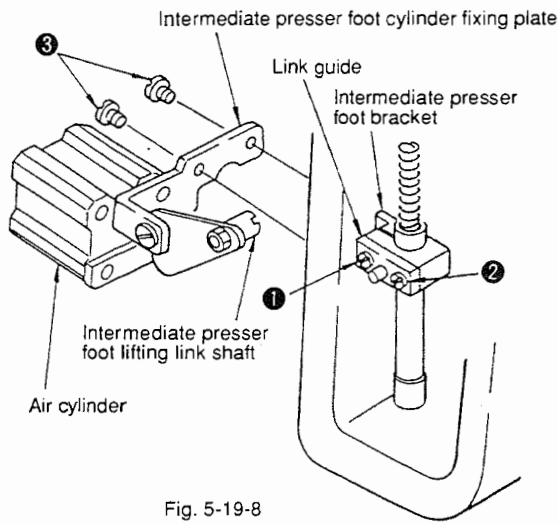
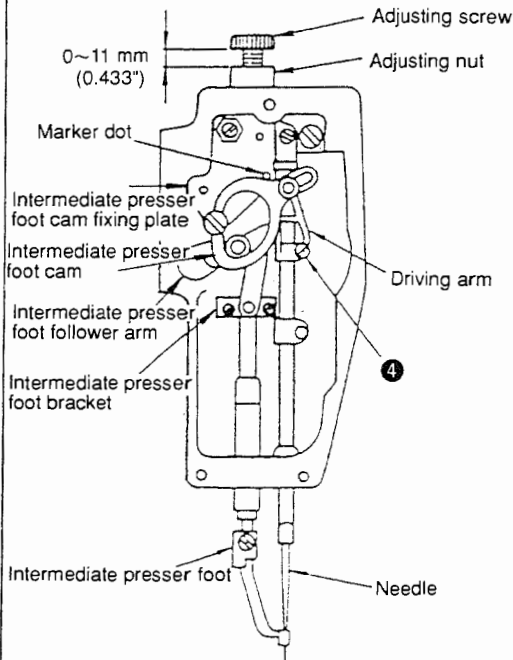
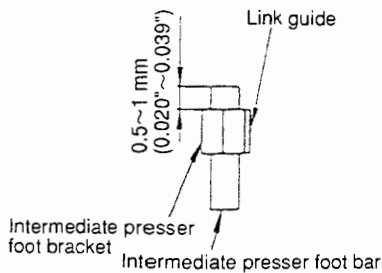

Fig. 5-19-8
Fig. 5-19-9
Fig. 5-19-10
- 2) The bottom face of the link guide is flush with the bottom face of the intermediate presser foot bracket. (Fig. 5-19-10)
- 3) The intermediate presser foot bar projects 0.5 to 1 mm (0.020" to 0.039") from the top end of the intermediate presser foot bracket. (Fig. 5-19-10)
- 5) When the main shaft is turned by hand until it reaches its highest position, the periphery of the intermediate presser foot cam should meet the bottom edge of the marker dot. (Fig. 5-19-9)
- 7) The clearance between the adjusting screw and the adjusting nut should be 0 to 11 mm (0.433"). (Fig. 5-19-9)
- 8) A clearance is provided between the bottom face of the intermediate presser foot bracket and the intermediate presser foot lifting link shaft when the intermediate presser foot is in its lowest dead point. (Fig. 5-19-8)
- 10) When the intermediate presser foot is brought to its highest position (the air cylinder projects), the intermediate presser foot cam fixing plate should not come in contact with the intermediate presser foot follower arm. (Fig. 5-19-9)
<p>2 ) Loosen setscrew ❶ and ❷, and adjust so that the bottom face of the link guide becomes flush with the bottom face of the intermediate presser foot bracket. Tighten setscrew ❷. (Fig. 5-19-10)</p> <p>3 ), 4) Further adjust so that the intermediate presser foot bar protrudes 0.5 to 1 mm (0.020" to 0.039") from the top edge of the intermediate presser foot bracket and also the needle point enters the center of the hole in the intermediate presser foot. After adjustment, tighten setscrew ❶. (Figs. 5-19-10, 5-19-11)</p> <p>5 ), 6) Loosen setscrew ❹. Turn the main shaft by hand until the needle bar reaches its highest position. Move the driving arm up or down to make the periphery of the intermediate presser foot cam contact the lower edge of the red marker dot. After adjustment, tighten setscrew ❹. (Fig. 5-19-9)</p> <p>(Caution) When tightening setscrew ❹, be sure that the roll of the driving arm does not stick against the slot in the intermediate presser foot cam. Also, check the main shaft for smooth rotation by turning it by hand after adjustment.</p> <p>7 ) Adjust to provide a clearance of 0 to 11 mm (0.433") between the adjusting screw and the adjusting nut. (Fig. 5-19-9)</p> <p>8 ) Loosen setscrews ❸, and adjust the attaching position of the intermediate presser foot cylinder fixing plate so that the bottom of the intermediate presser foot bracket does not come in contact with the intermediate presser foot link shaft when the intermediate presser foot is in its lowest dead point. (Fig. 5-19-8)</p> <p>9 ) Loosen setscrews ❸, and adjust the attaching position of the intermediate presser foot cylinder fixing plate so that the max. lifting amount of the intermediate presser foot becomes 14 mm (0.551"). (Fig. 5-19-8)</p> <p>(Caution) The max. lifting amount of the intermediate presser foot is the difference in height between the lowest dead point and the highest point of the intermediate presser foot.</p> <p>10) Loosen setscrew ❸, and adjust the attaching position of the intermediate presser foot cylinder fixing plate so that the intermediate presser foot cam fixing plate does not come in contact with the intermediate presser foot follower arm when the intermediate presser foot is brought to its highest position. (Fig. 5-19-8)</p>	<ul style="list-style-type: none"> <li>• The intermediate presser foot may fail to go up after completion of a sewing cycle.</li> <li>• The needle would fail to enter the center of the hole in the intermediate presser foot, resulting in formation of loose stitches or the needle touching the intermediate presser foot.</li> <li>• Inadequate pressure of the intermediate presser foot would lead to stitch skipping trouble.</li> <li>• Oil would ooze out through the wiper link plate.</li> <li>• The lifting amount of the intermediate presser foot is insufficient.</li> <li>• Metallic noise (like click-clack) is heard while the intermediate presser foot actuates.</li> </ul>